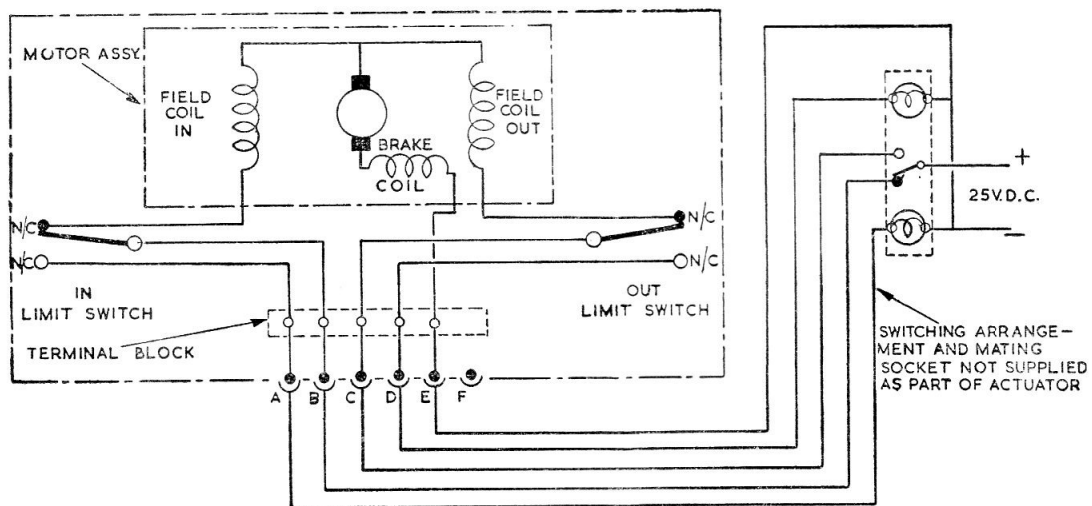

Fig. 4. Circuit diagram
1. These actuators, Plessey Part No. 1CZ135770/2, are variants in the Jaguar (Slow Speed) Series described in the main chapter. A 5-pole Cannon type plug, is located in the top section of the front cover, for connection to the external electrical circuit. Hence, with the exception of the 'feed-back' line from the brake coil to F on the plug assembly, the typical circuit diagram, Fig. 4 in the main chapter, is applicable to actuators covered in this appendix. All other